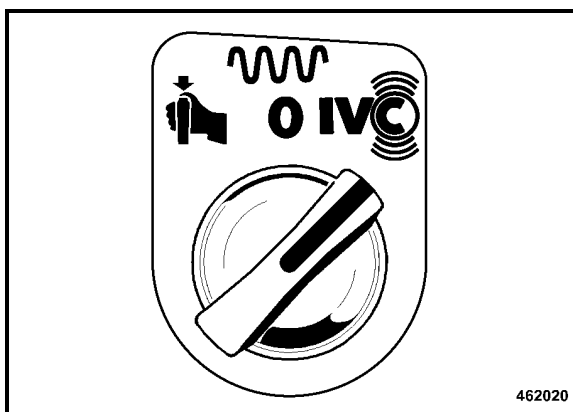

Fig. 76
- Turn the rotary vibration pre-selection switch (Fig. 76) clockwise to position "IVC".